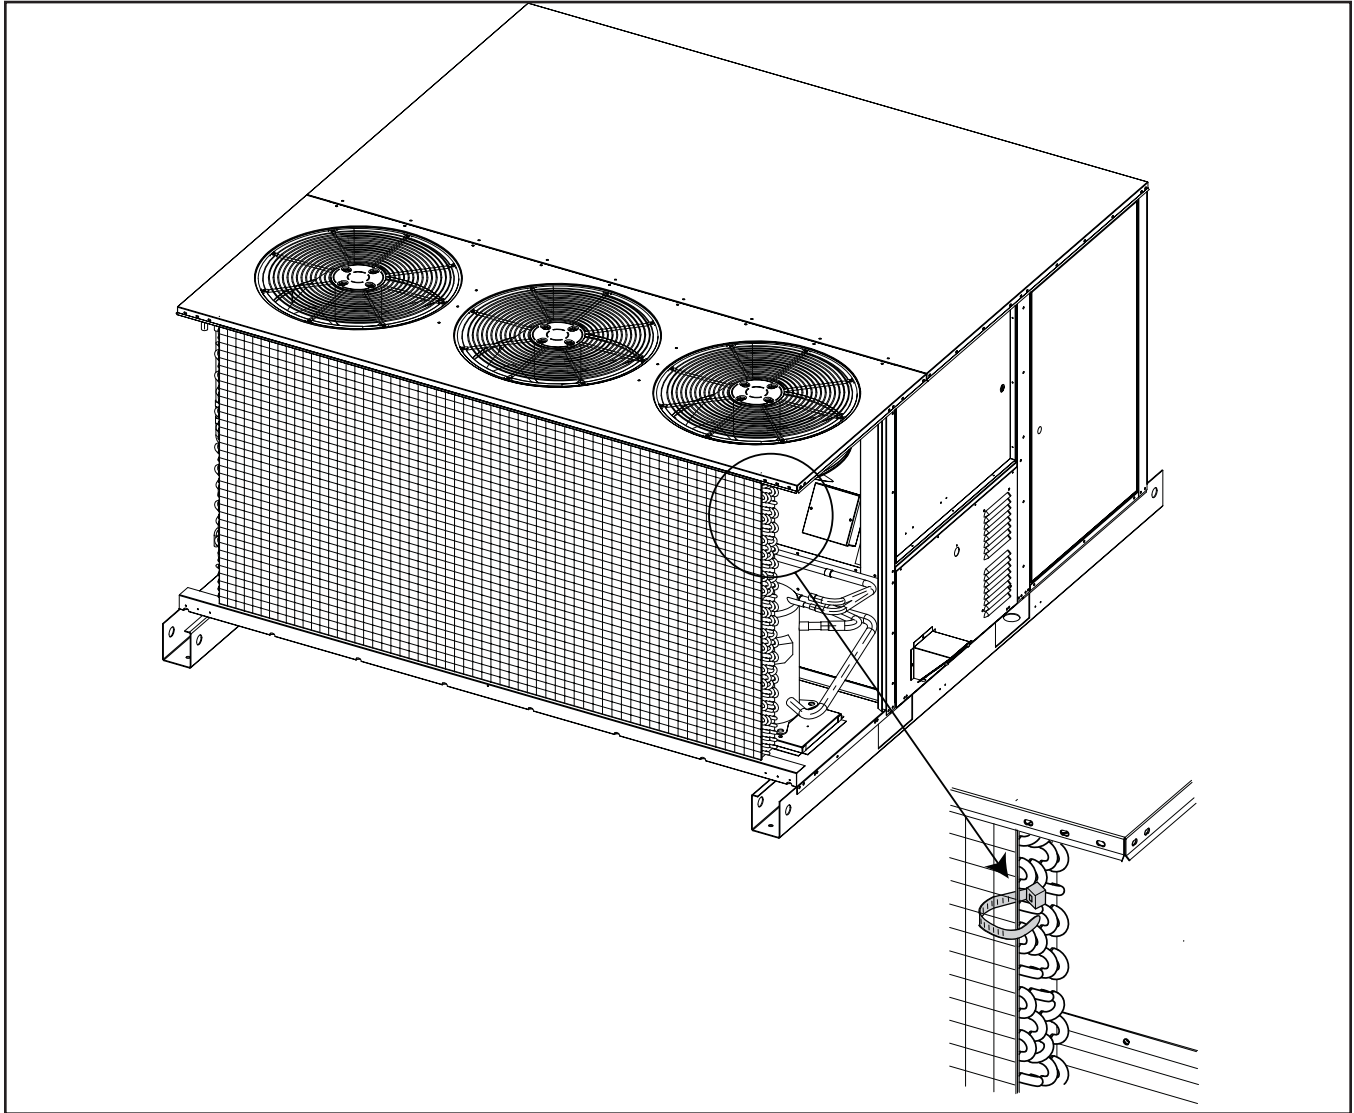

Figure 2.
4. Slide the hail guard up under the unit top pan and center across front of coil. Ensure there is enough overlap at each end and loosely secure one side at the top using a wire tie through one of the coil return bends. See Figure 2.